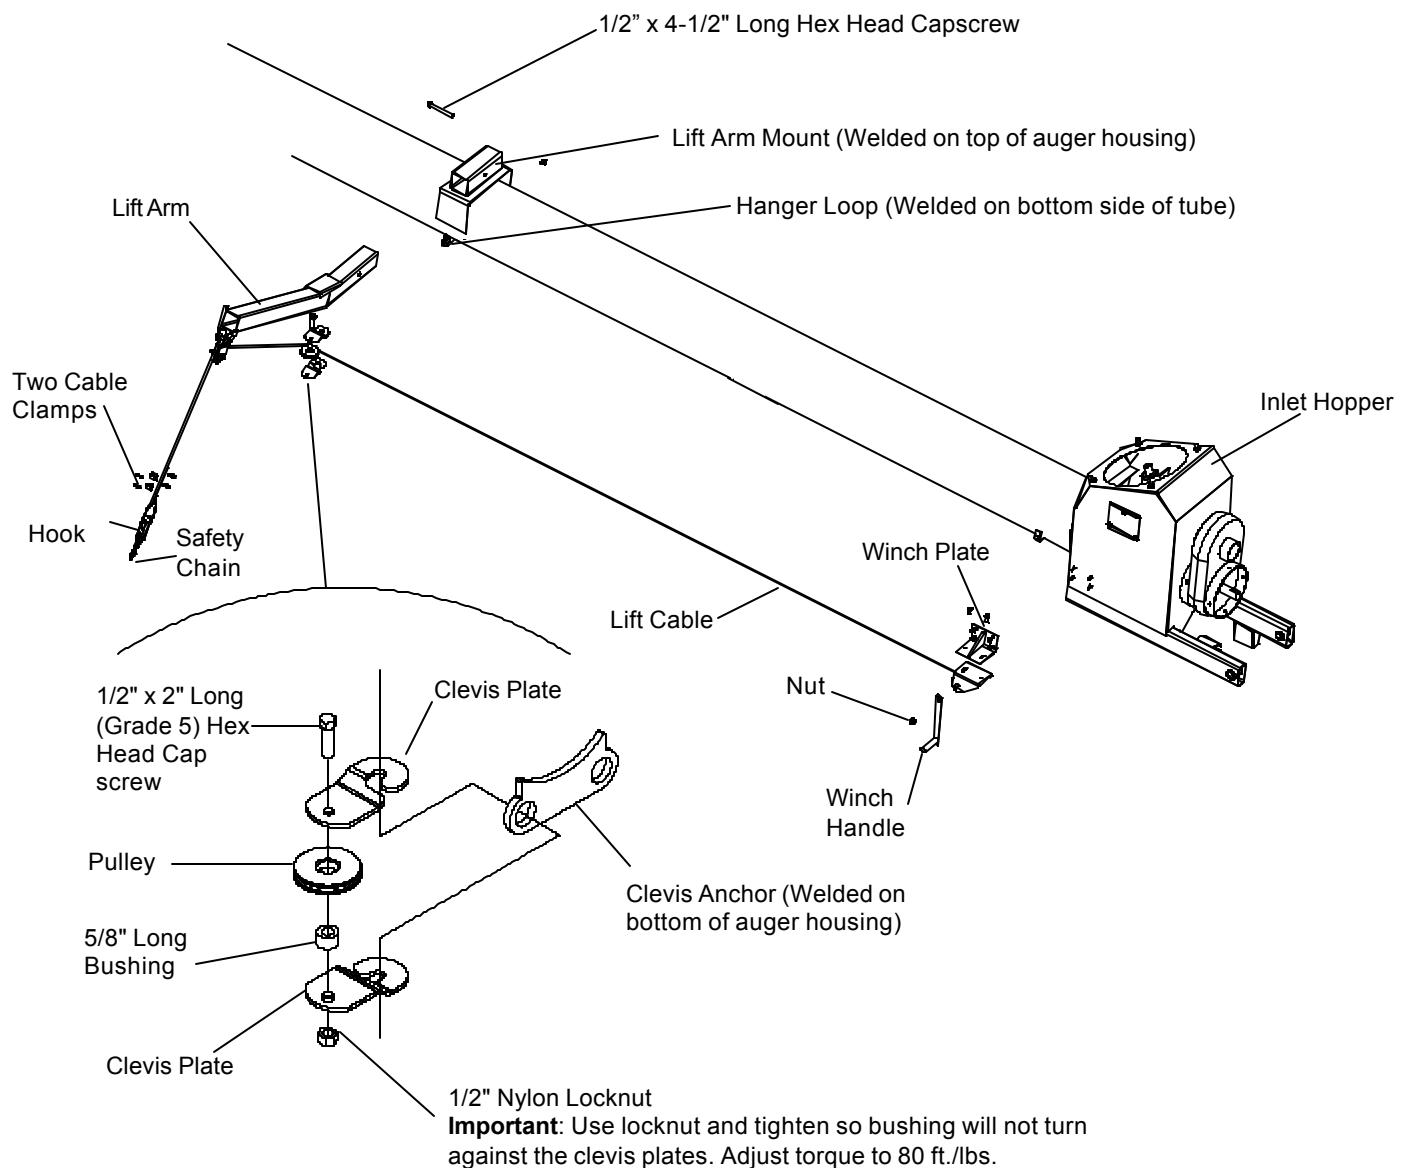

Fig. 15
- B. Attach winch plate to inlet hopper using four (4) 3/8" x 1" long hex head capscrews and locknuts.
- C. Hook clevis plates through the hanger loop on underside of auger housing as shown in Fig 15 below. Assemble 5/8" long bushing and cable pulley between the clevis plates using 1/2" x 2" long (grade 5) hex head capscrew and nylon locknut. After tightening the locknut, check to see that the clevis plates are securely hooked on the hanger loop and can't come off.